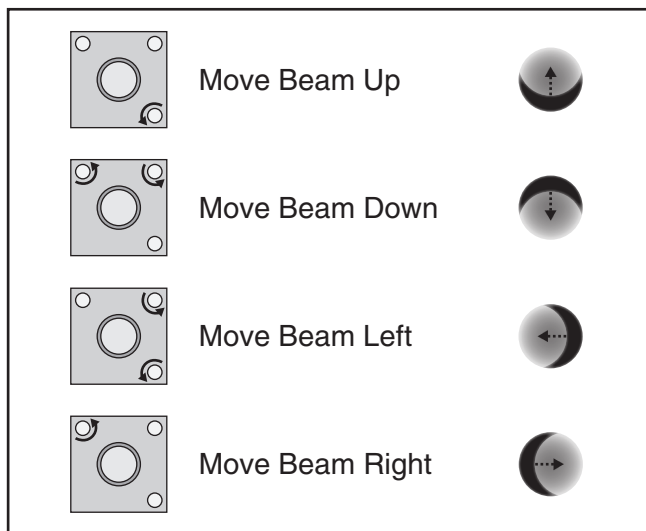

Figure 118. Mirror thumbscrew adjustment.
33. Adjust direction of beam path by tightening thumbscrews depending on desired direction of beam travel (see **Figure 118**).